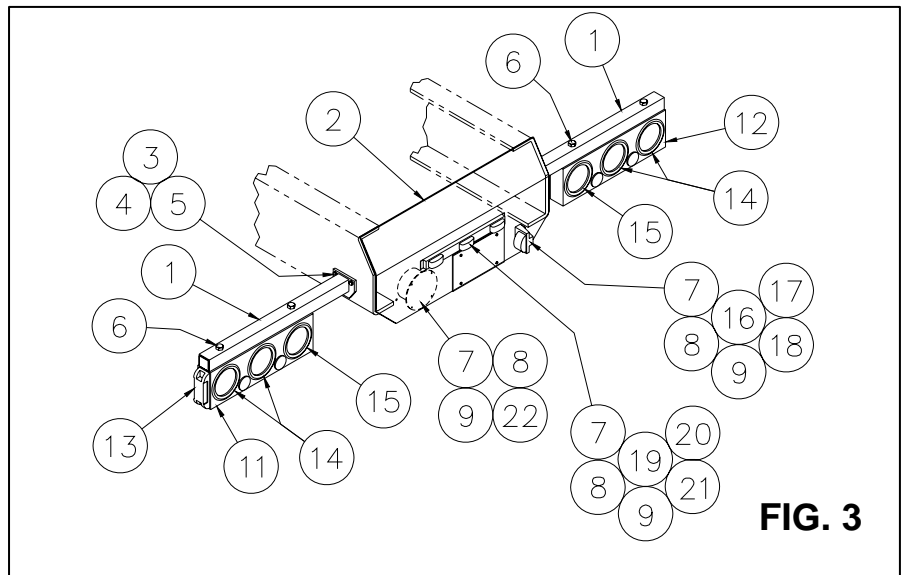

FIG. 3
5. Install the roller [Part No. 10H12] between the brackets with the roller axle [Part No. 10H31] and the fasteners provided (See Fig. 3). Grease the rollers before use.